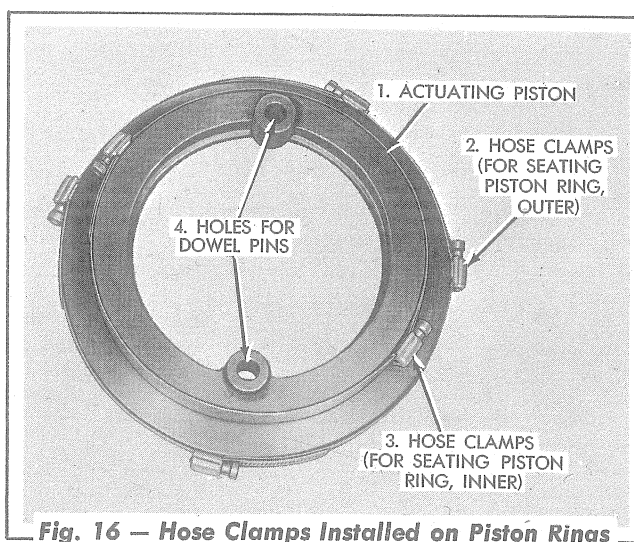

Fig. 16 — Hose Clamps Installed on Piston Rings
- c. After the piston rings have been installed in the grooves of the pistons, refer to Fig. 16, and tighten hose clamps as shown around the rings to seat the rings properly in the pistons. Leave the hose clamps installed on the rings for about 30 minutes, allowing the rings to cool, then remove the hose clamps.